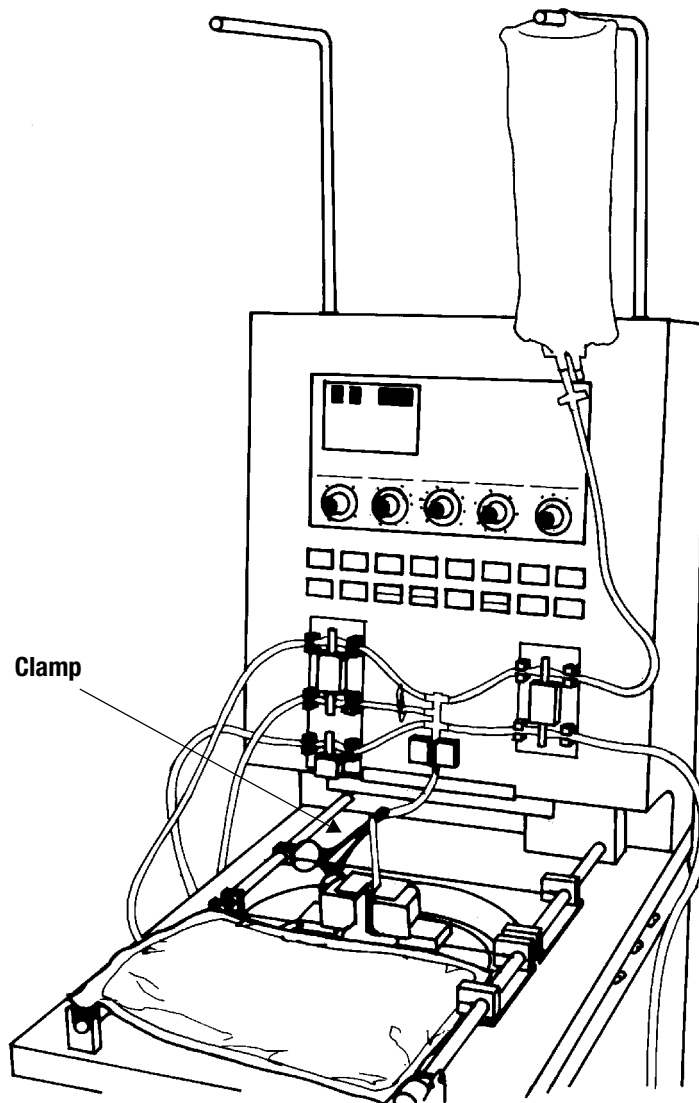

Figure 6-17: Correct placement of the cell product bag for predilution
- b Place the cell product bag on the tabletop (Figure 6-17 on page 6-19).
- 2 Place the starting cell product bag on the tabletop (Figure 6-17).
- 3 Place the cell product bag on the tabletop (Figure 6-17 on page 6-19).